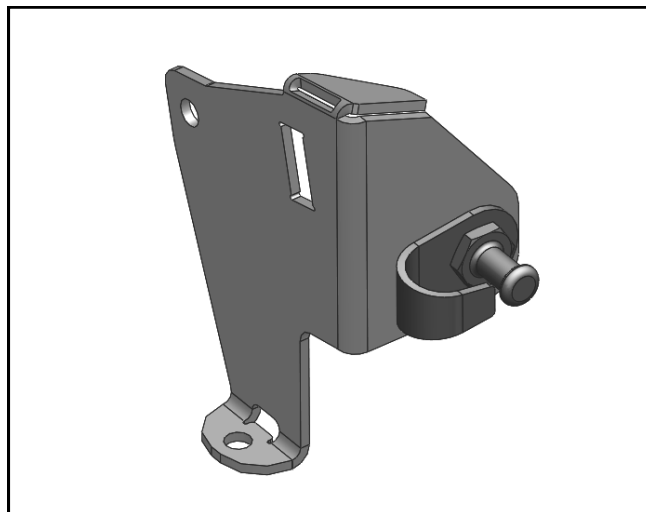

Fig. 1.2 (Left Latch Bracket)
- 1.2 Locate the left latch bracket seen in Fig.1.2.